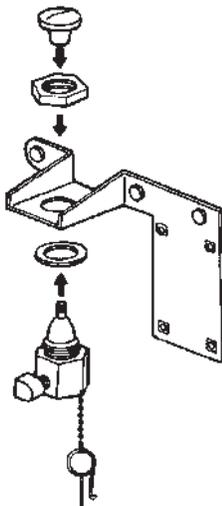

FIGURE 22
2. Reinstall jam nut and tighten firmly (see Figure 22).